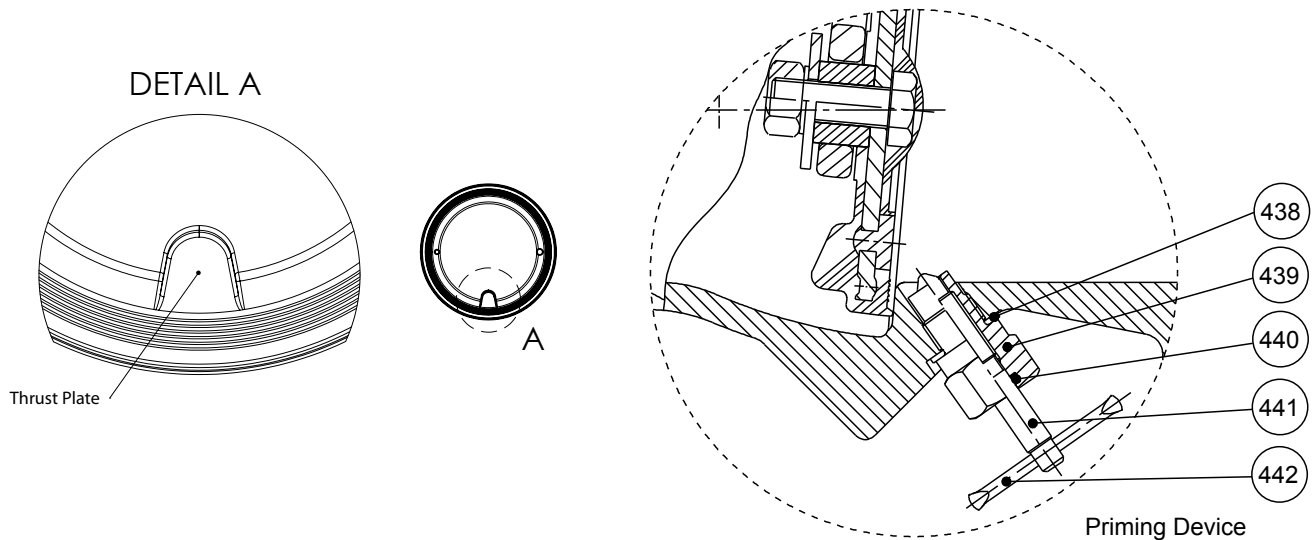

Fig. 10
6. Reassemble the Shaft-Hinge-Disc assembly as shown in figure (9). Tighten Disc Nut (401) until the Disc Lock Washer (423) is flat. On 10-inch and 12-inch valves, bend the appropriate tab on the Disc Lock Washer to secure the Disc Nut.
**NOTE:** On 3-inch through 8-inch valves, insure that the thrust plate on the Disc (413) is located at the 6 o'clock position. ( See Detail "A", figure 10 ). On 10-inch and 12-inch valves, the Disc can only be mounted as shown in figure (7).
7. Insert the rebuilt Shaft-Hinge-Disc assembly into the valve bonnet (407). Ensure the disc is facing the proper direction. Refer to figure (7) for proper positioning of 10-inch and 12-inch valve components.
9. Install the bushings in the valve bonnet (407) and tighten to 45-ft-lbs.